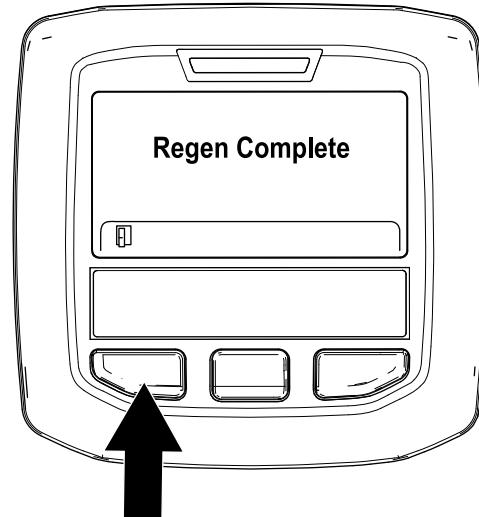

Figure 54
- The parked regeneration is complete when the “Regen Complete” message displays in the InfoCenter. Press the left button to exit to the home screen (Figure 54).